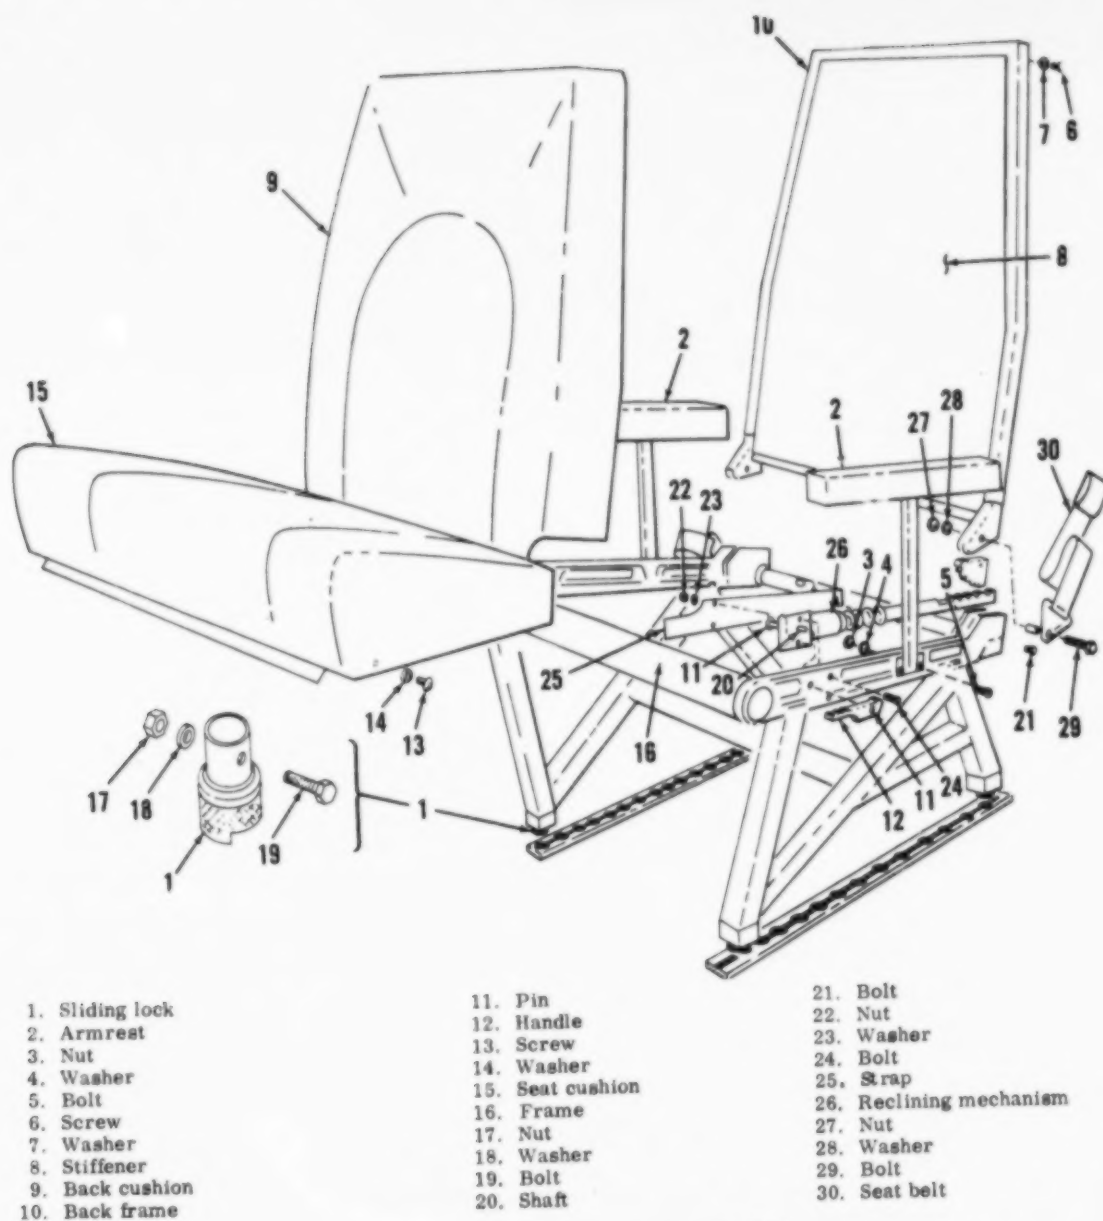

Figure 4-21. Passenger seat (U-8G)
a. Removal. (1) Lift sliding lock (1, figure 4-21) located on forward legs of seat and rotate 90 degrees in either direction.
(2) Move seat either forward or aft until seat base fittings align with circular cutouts in mounting tracks.
(3) Lift seat from mounting tracks.
b. Cleaning. Wipe off seat frames with a clean, cloth dampened with dry cleaning solvent (item 6, table 1-8) and dry with a clean, dry cloth.
c. Inspection. (1) Inspect metal parts of seats for cracks, bends, or broken weld.
a. Removal. (1) Remove seat in accordance with paragraph 4-120.
(2) Remove armrests (2, figure 4-21) by removing nuts (3), washers (4), and bolts (5).
(3) Remove screws (6) and washers (7) securing upholstered stiffener (8) to back of seat.
(4) Pull cemented back cushion (9) from back frame (10).
(2) Remove nuts (17, figure 4-21), washers (18), and bolts (19). Remove sliding lock (1) from legs of seat.
b. Cleaning. Clean parts with dry cleaning solvent (item 6, table 1-8) and dry with compressed air.
d. Installation. (1) Install sliding locks (1) in forward legs of seat and secure with bolts (19), washers (18), and nuts (17).
4-123. SEAT RECLINE MECHANISM. The recline adjustment handle (12, figure 4-21) releases the seat reclining mechanism so that the seat back may be adjusted up or down.